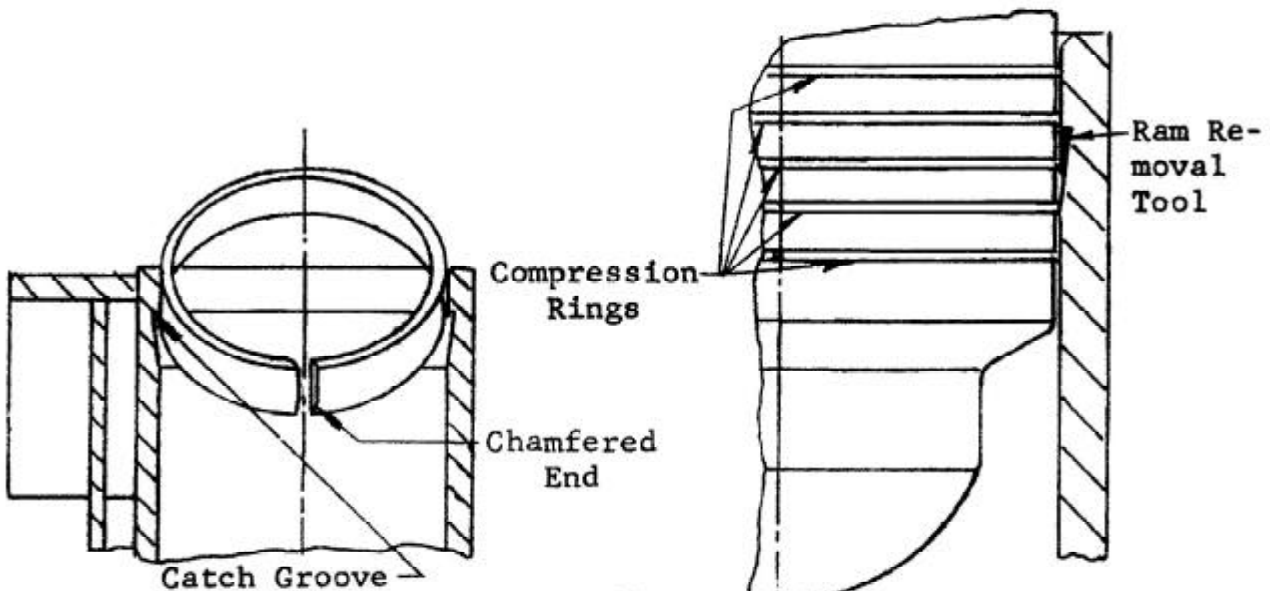

FIG. 17
2. Insert a Ram Removal Tool (DE-30B/20B Part #0960143 or DE-70B/50B Part #0960146) into the safety catch lip machined into the cylinder bore about 2" to 3" from the top of the bore opening. The Ram Removal Tool is a machined tapered split ring, inserted into the top of the hammer I.D. and pushed into the cylinder until it snaps into the machined catch groove (See Figure 17). The tool should be inserted with the chamfered end down. When in the catch groove, the Ram Removal Tool affords a tapered surface which allows the rings to ride along, compress into their ram grooves and by-pass the catch